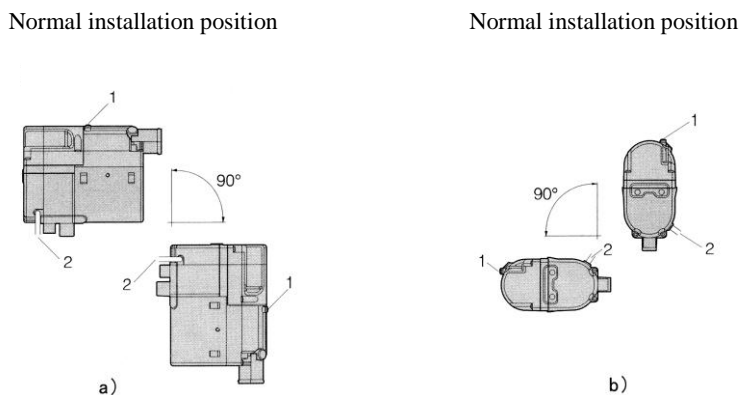

Fig. 4
4.2.3 Choice of position for installation of the heater shall keep the air bleeding screw always on top, so as to facilitate release of air from the water pipe. It is allowed to incline to suit different arrangements for installation, but deviation from the “normal installation position” shall not exceed 90°, as shown in Fig. 4.